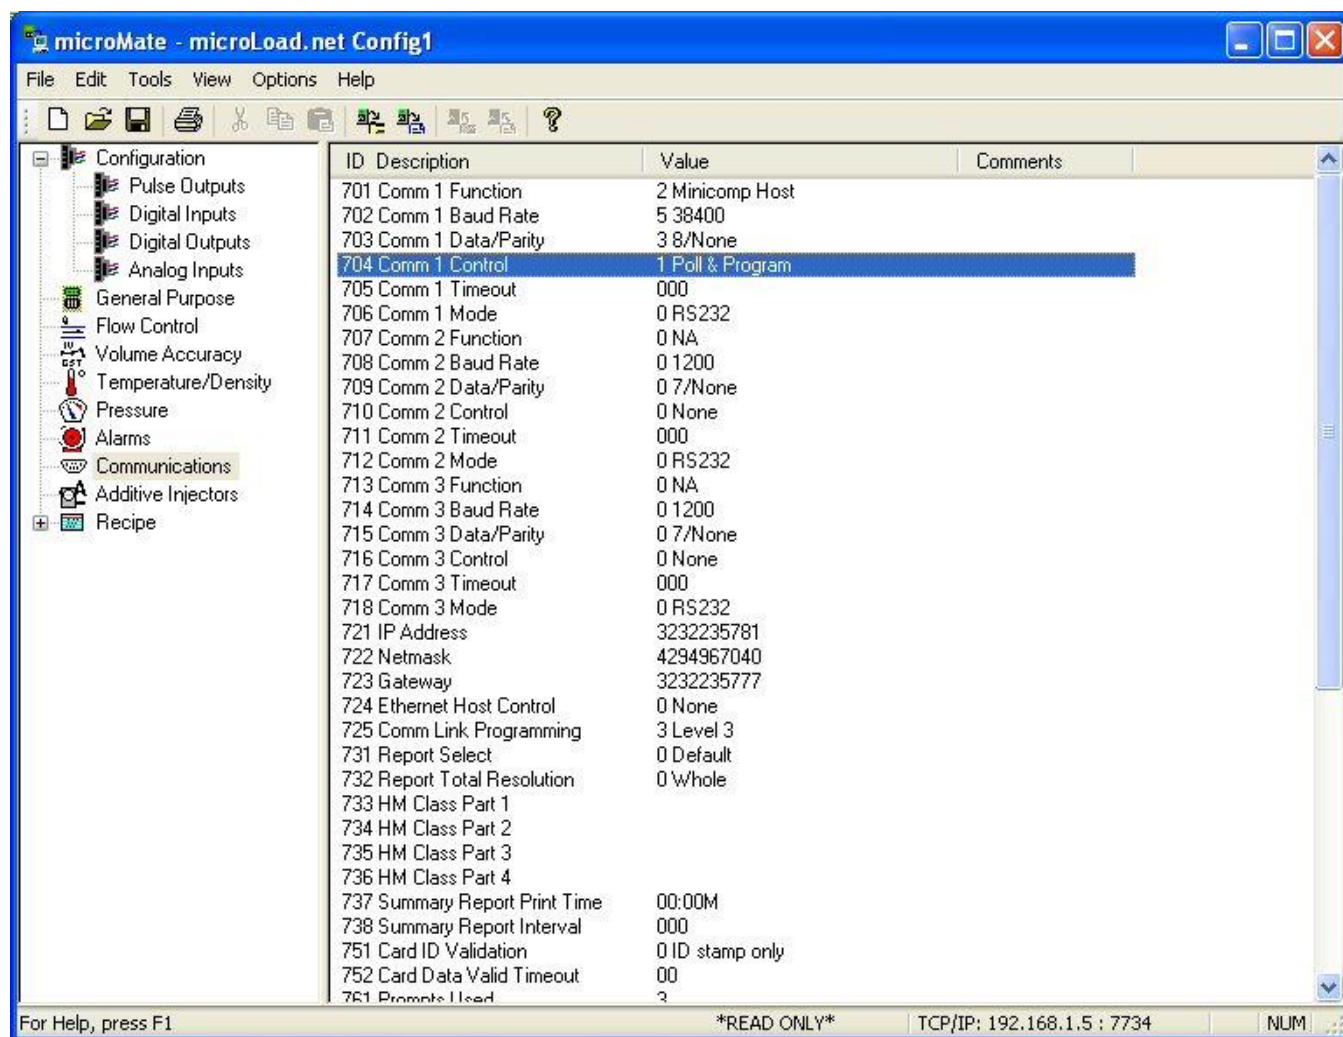

Figure 4. Communications Directory
3. A display similar to that shown below will appear on the computer screen. Communication configuration program codes are in the "700" System Communications group, as shown in Figure 4 below.